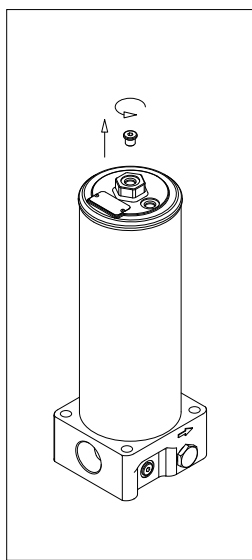

fig. 27
- (Fig. 27) Unscrew the breather plug of the CLEAN SIDE (located in the centre of the hexagon)